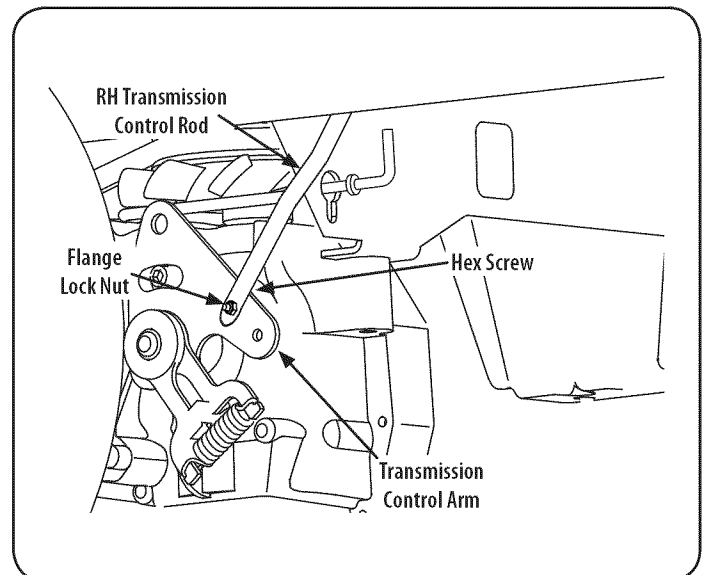

Figure 44
6. If only one wheel is rotating, locate the transmission control rod beneath the frame at the front of the rear tire. If both wheels rotate, locate both control rods. See Figure 44.